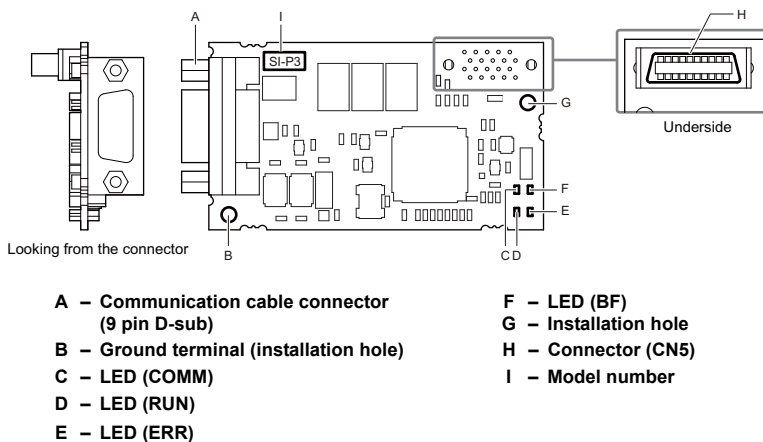

Figure 1 Option Card
- Verify receipt of the correct model by checking the information on the PCB (see Figure 1).